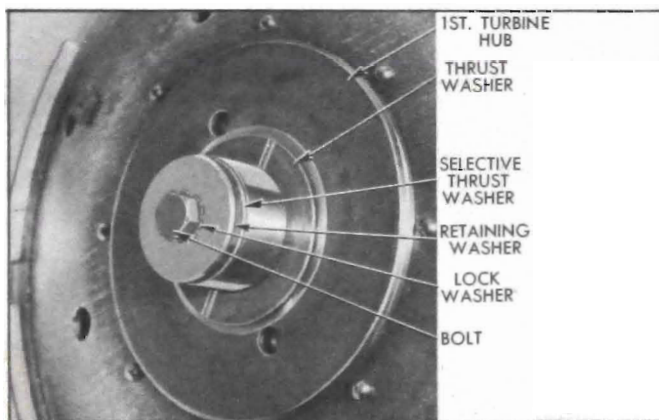

Figure 5-25—Turbine Retaining Washer and Thrust Washer
3. Remove reverse band adjustment cover and gasket, using Removing Tool J 2655. Shift into "Parking" and pry up on reverse band operating lever with screwdriver to lock input shaft while removing the bolt, lockwasher, retaining washer and thrust washer from front end of input shaft. See figure 5-25.